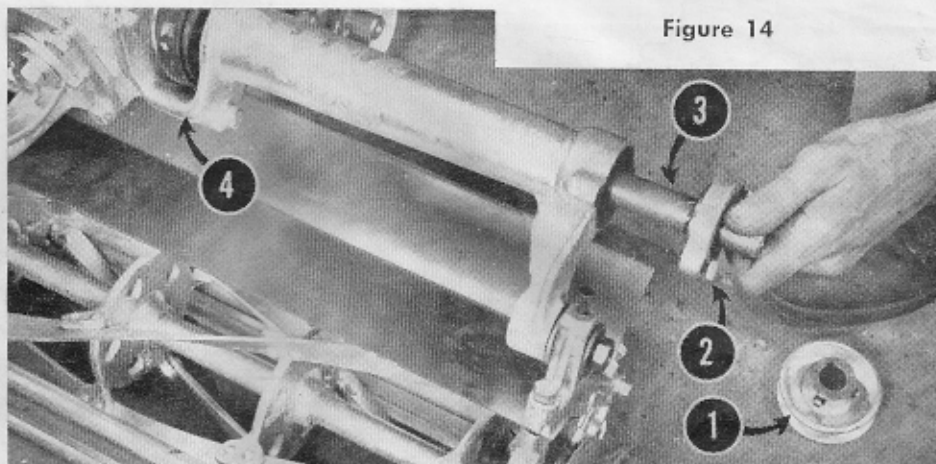

Figure 14
2. Loosen the set screws and remove the Outer Drive Pulley, 1 in Figure 14.
3. Loosen the Bearing Cap Screw, 2 in Figure 14, and pull the Outer Cross Shaft, 3 in Figure 14, out as far as possible so there is room to insert the Inner Wing Drive Pulley and Belt into the opening, 4 in Figure 14.